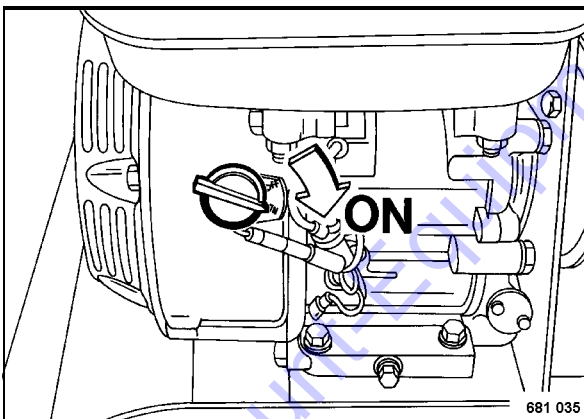

Fig. 9
- Turn ignition switch 1 (Fig. 9) to position "ON".